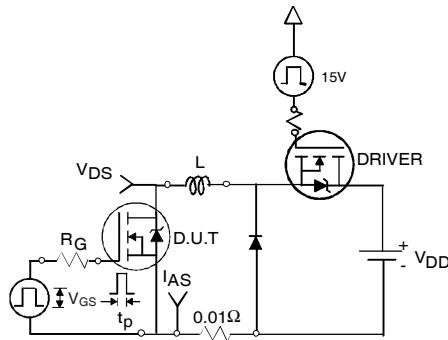

Fig 12a. Unclamped Inductive Test Circuit
| I_{AR} | Avalanche Current ① | See Fig.12a, 12b, 15, 16 | A |
- ④ Pulse width $\leq 400\mu\text{s}$; duty cycle $\leq 2\%$.
- ⑤ $C_{\text{oss eff.}}$ is a fixed capacitance that gives the same charging time as C_{oss} while V_{DS} is rising from 0 to 80% V_{DSS} .
- ⑥ Limited by $T_{J\text{max}}$, see Fig.12a, 12b, 15, 16 for typical repetitive avalanche performance.
- ⑦ This value determined from sample failure population. 100% tested to this value in production.
3. Equation below based on circuit and waveforms shown in Figures 12a, 12b.